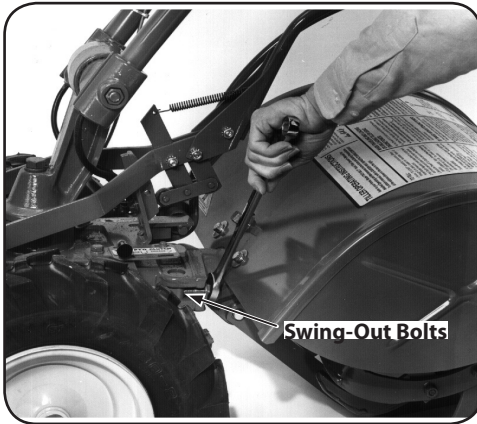

Figure 4-21
- Loosen the two swing-out bolts that connect the power transmission to the tine attachment. See Figure 4-21.